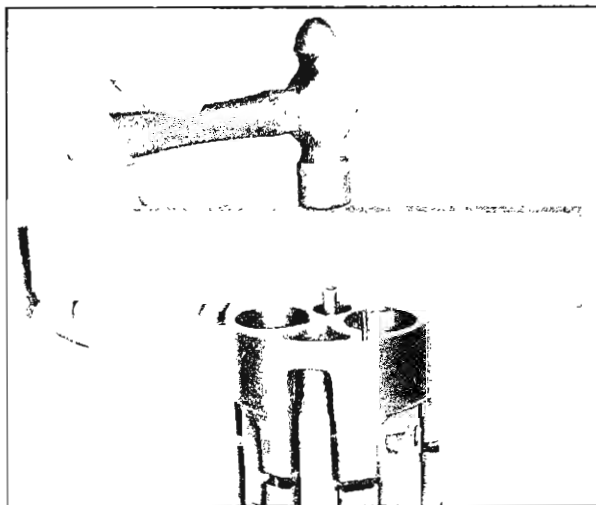

Fig. 35—Assembling Cylinder Halves
10. Align the rear head casting with bores, suction passage, discharge crossover holes, and dowel pins. Tap into place, using a plastic block and mallet (fig. 35).